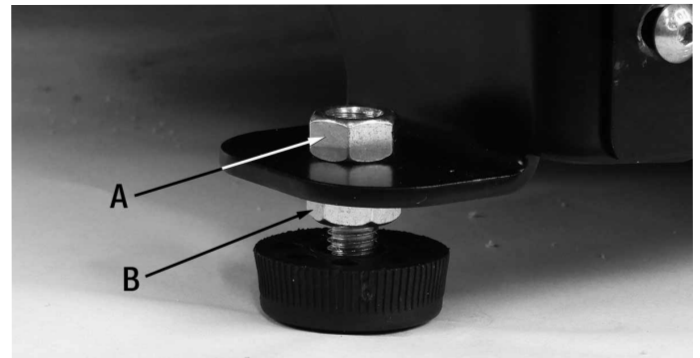

FIGURE 4
- 1) Install the leveling feet as shown in Fig.4, with one hex. nut (A) above the mounting hole, and one hex. nut below (B). Adjust the height of the feet by loosening the hex. nuts as needed.